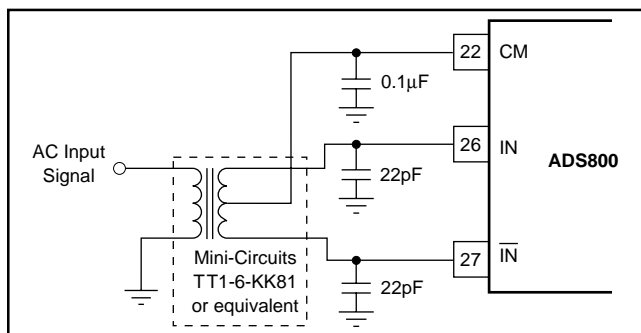

FIGURE 5. AC-Coupled Single-Ended to Differential Drive Circuit Using a Transformer.
The ADS800 has a differential input with a common-mode of +2.25V. For AC-coupled applications, the simplest way to create this differential input is to drive the primary winding of a transformer with a single-ended input. A differential output is created on the secondary if the center tap is tied to the common-mode voltage of +2.25V, as per Figure 5. This transformer-coupled input arrangement provides good high-frequency AC performance. It is important to select a transformer that gives low distortion and does not exhibit core saturation at full-scale voltage levels. Since the transformer does not appreciably load the ladder, there is no need to buffer the Common-Mode (CM) output in this instance. In general, it is advisable to keep the current draw from the CM output pin below 0.5μA to avoid nonlinearity in the internal reference ladder. A FET input operational amplifier such as the OPA130 can provide a buffered reference for driving external circuitry. The analog IN and  $\overline{\text{IN}}$  inputs should be bypassed with 22pF capacitors to minimize track-and-hold glitches and to improve high input frequency performance.